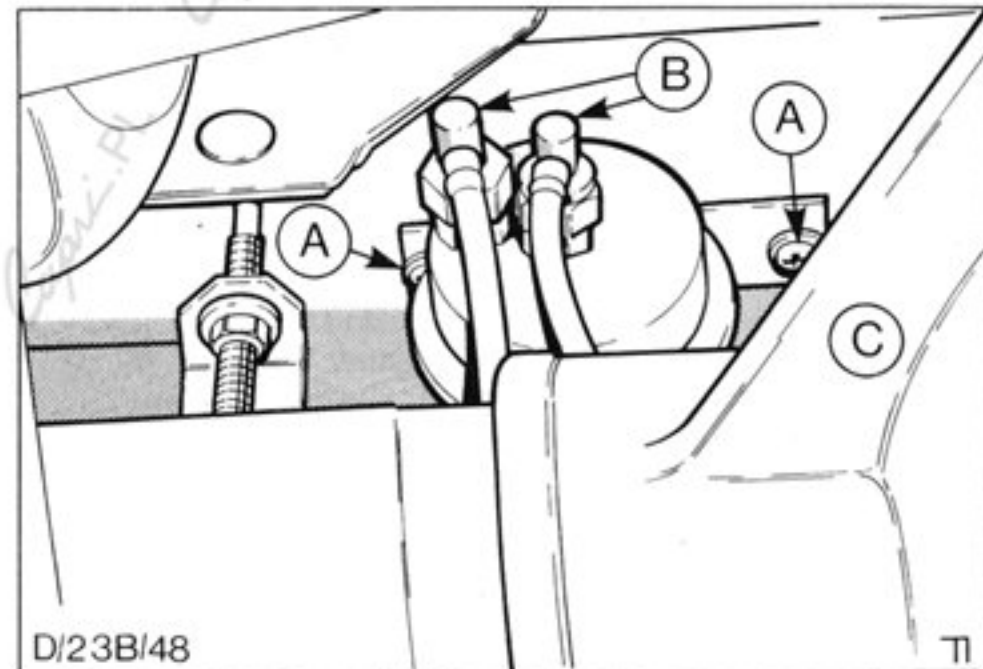

Fig.102. Fuel accumulator.
5. Hold a container beneath fuel connections and disconnect inlet and outlet connections, Fig.102.